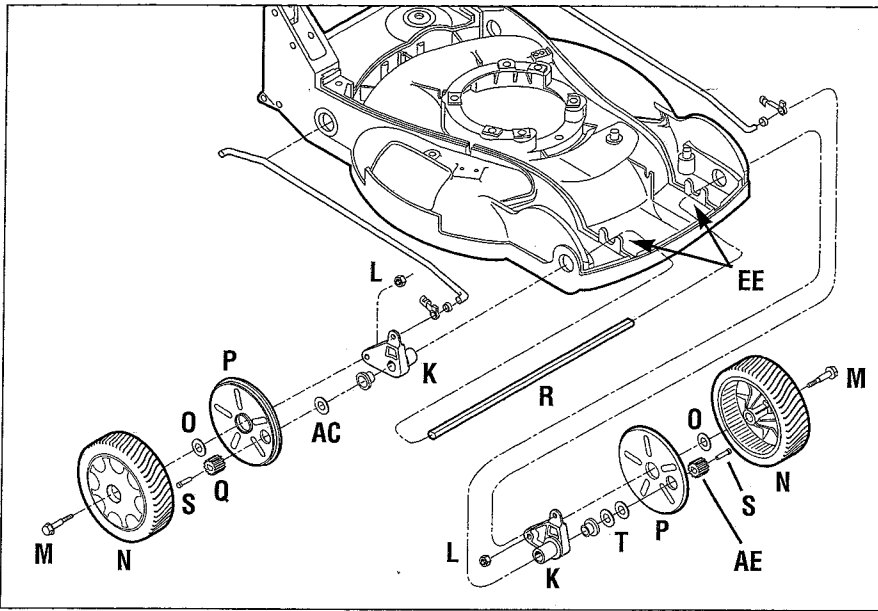
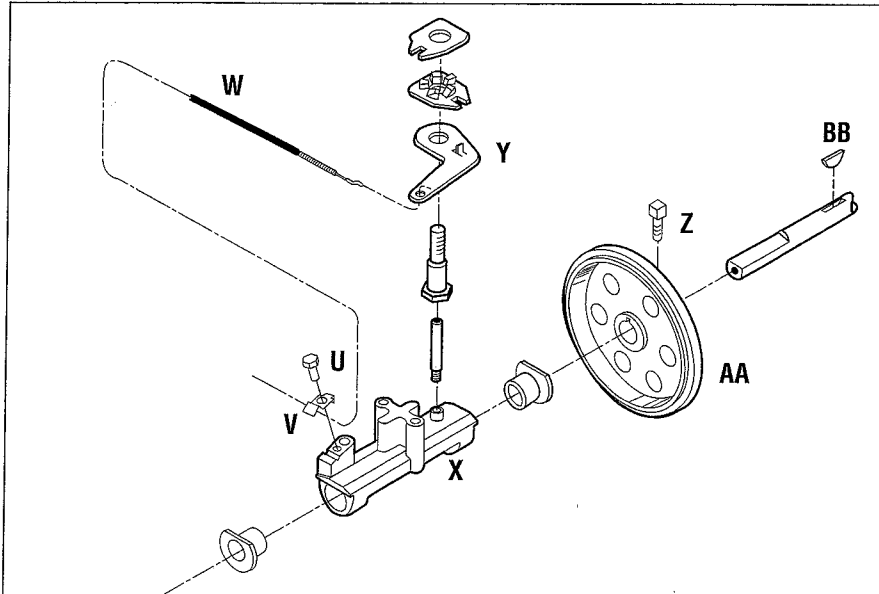

Fig. 3
Fig. 4
6. Insert folded pieces of cardboard between the front axle arms (K, Fig. 3) and the mower deck to prevent the wheel axle nuts (L) from dislodging when the wheel axle bolts (M) are removed. Use a 9/16" socket to remove the wheel axle bolts. Pay careful attention to the assembly and remove wheels (N), washers (O) and wheel shields (P).
7. Secure the left side drive axle pinion (Q, Fig. 3) with vise grip pliers (protect pinions with cardboard) and remove the right side drive axle pinion (AE, Fig. 3) by removing the 3/16" Allen screw (S). Remove the shim washers (T). Do not reuse the 3/16" Allen screw.
8. Using a 5/16" nut driver or 5/16" socket, remove screw (U, Fig. 4) and clamp (V) securing clutch drive cable (W) to axle carrier (X). Save screw and clamp for reassembly. Disconnect clutch drive cable from ramp arm (Y).
9. Using a 1/4" wrench, remove the friction disc set screw (Z, Fig. 4). Do not reuse set screw during reassembly procedure.
10. Remove axle carrier (X, Fig. 4) and friction disc (AA). Determine if axle is a single D axle (with full length machined flat side) or a round axle (with keyway as shown in Fig. 4):
- a.) If it is a round axle, save the axle for reassembly. Be sure to remove and save key (BB) before removing axle from unit (if available, use vise grip needle-nose pliers to remove key). The friction disc should not be reused.
- b.) If it is a single D axle, replace it with a round axle during the reassembly procedure. Remove and save left side drive axle pinion and thrust washer (AC, Fig. 3) for reuse with round axle. The friction disc should not be reused.
- e). Install stop bracket using 1/4"-20 screw (GG) and toplock nut (HH). Remove the round axle.
- a). Be sure that key (BB, Fig. 4) is installed in axle (use pliers to install key).
3. If reusing round axle, reinstall the axle shims (T) and drive axle pinion (Q) on right side. If using new round axle, install axle thrust washer (AC) on left side, axle shims (T) on right side, and drive axle pinions on both sides (see Fig. 3). When securing pinions, be sure to use new 3/16" Allen screw(s) shipped in kit.
4. Reassemble wheels (N, Fig. 3), washers (O) and wheel shields (P). Tighten axle bolts (M) to 240/300 in./lbs. Do not pinch wheel shields when tightening axle bolts. Remove cardboard from behind axle arms.
12. Some units have molded axle support bosses in the deck (EE, Fig. 3). If unit does not have bosses, install a stop kit as follows: